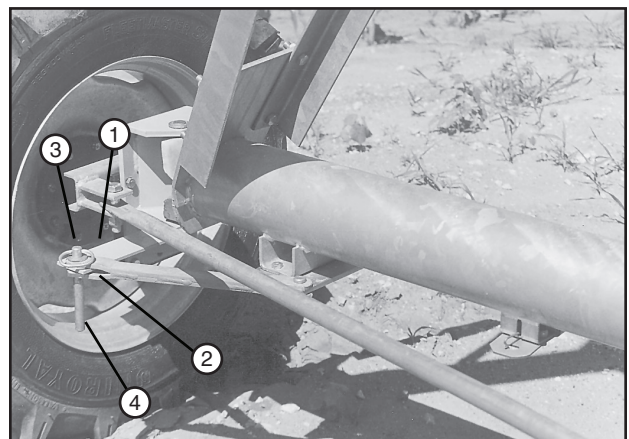

Figure 53-3 1. Steering Arm 2. Tow Link Bar Yoke 3. Torque Pin 4. Lynch Pin
20. Position each steering arm in tow link bar yoke, align holes, then attach each steering arm to tow link bar with torque pin and secure with lynch pin. It may be necessary to move the tongue for proper alignment of the holes. See figure 53-3.